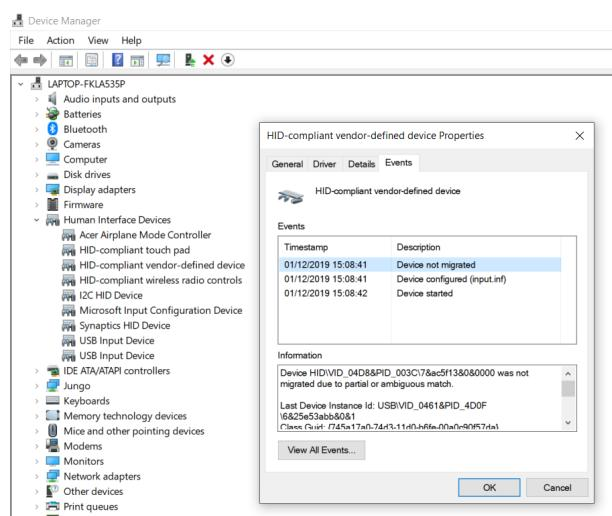

Fig. 8.4
8. On Windows machine it appears as HID compliant vendor-defined device with VID 04D8 and PID 003C. (Refer Fig. 8.4)